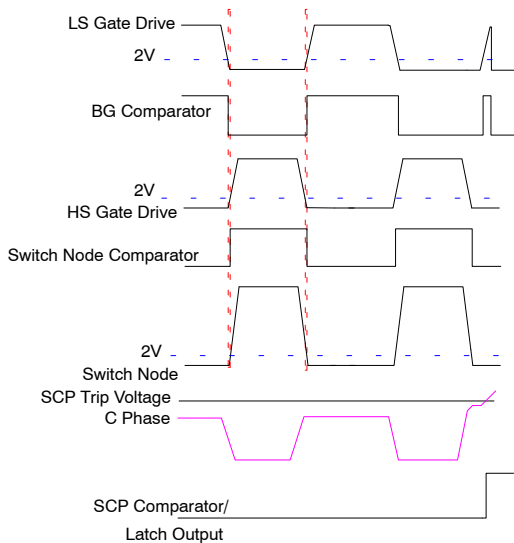

Figure 24. Switching and Current Limit Timing
In case of a short circuit or overload, the low-side (LS) FET will conduct large currents. The low-side $R_{DS(on)}$ sense is implemented to protect from over current by comparing the voltage at the phase node to AGND just prior to the low side MOSFET turnoff to an internally generated fixed voltage. If the differential phase node voltage is lower than OC trip voltage, an overcurrent condition occurs and a counter is initiated. If seven consecutive over current trips are counted, the PWM logic and both HS-FET and LS-FET are turned off. The converter will be latched off until input power drops below the UVLO threshold. The operation of key nodes are displayed in Figure 24 for both normal operation and during over current conditions.
A block diagram of the non-overlap and gate drive circuitry used is shown in Figure 24.